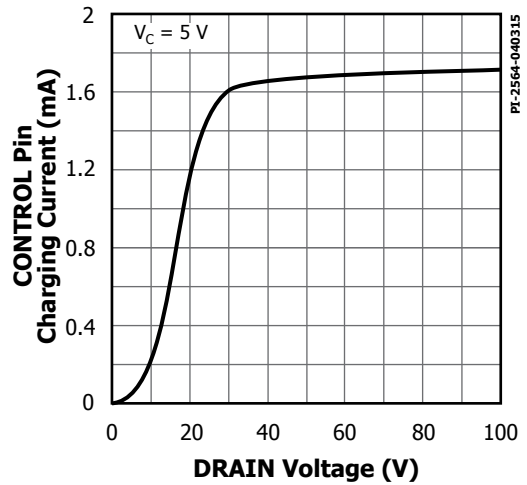

Figure 68.  $I_c$  vs. DRAIN Voltage.
- E. It is possible to start up and operate TOPSwitch-GX at DRAIN voltages well below 36 V. However, the CONTROL pin charging current is reduced, which affects start-up time, auto-restart frequency, and auto-restart duty cycle. Refer to Figure 68, the characteristic graph on CONTROL pin charge current (IC) vs. DRAIN voltage for low voltage operation characteristics.